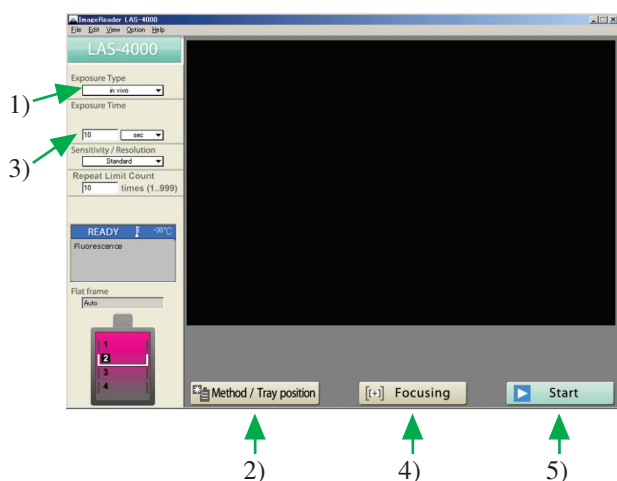

Fig.1 LAS-4000 IR multi color image
- 1) Select the “in vivo” mode* (1) as the “Exposure Type” (Fig.1).
* The “in vivo” mode displays superimposed images detected by white LED and near infrared (IR) light.